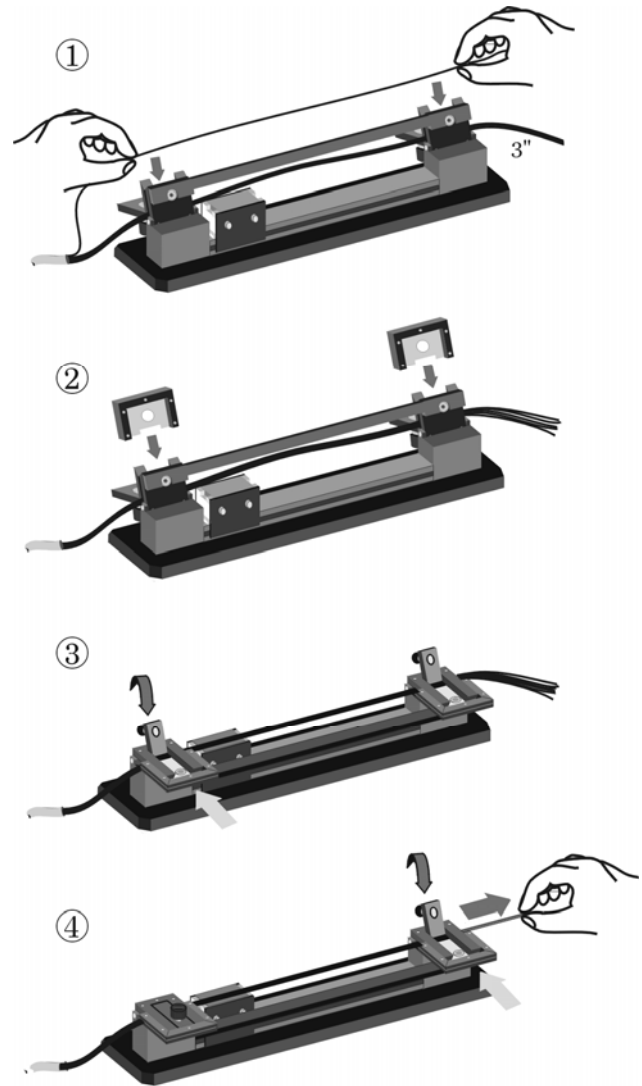

Figure 5. Arranging Fibers
*Note: Refer to Figure 5 when performing these steps.*